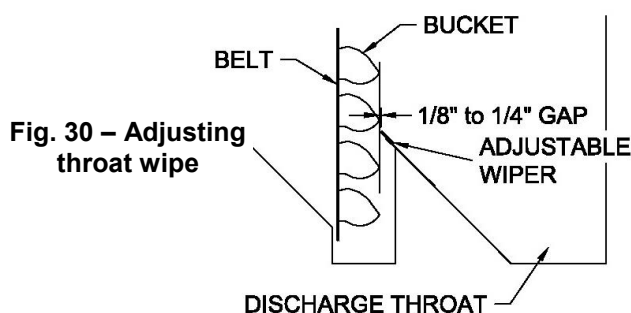

Fig. 30 – Adjusting throat wiper
13. Adjust throat wiper (Fig. 30) so there is approximately 1/8" to 1/4" distance between lip of cup and edge of wiper.